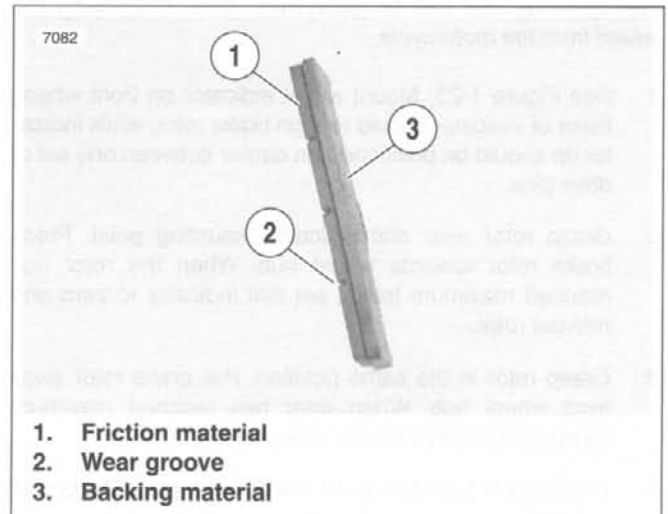

Figure 1-21. Brake Pad Thickness
See Figure 1-21. Inspect brake pads for damage or excessive wear. Replace both pads as a set if friction material (1) of either pad is worn to 0.04 in. (1.0 mm) or less. If this amount of wear occurs, wear grooves (2) will disappear from friction material surface.